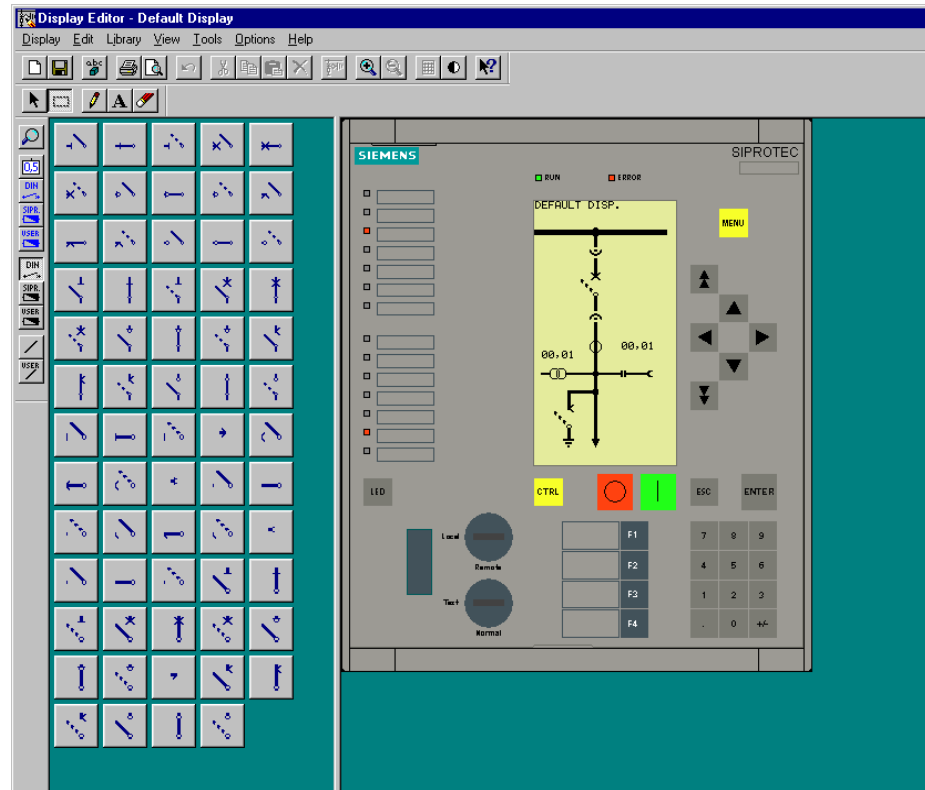

Figure 5-47 Default Display in Normal Size View
- Check the finished default display. The grid may be hidden by clicking **View** → **Grid**, equipment may be selected (brought to the front) by clicking **View** → **Make active**, and a view of the overall relay with default display may be selected by clicking **View** → **Normal size** (see Figure 5-47).